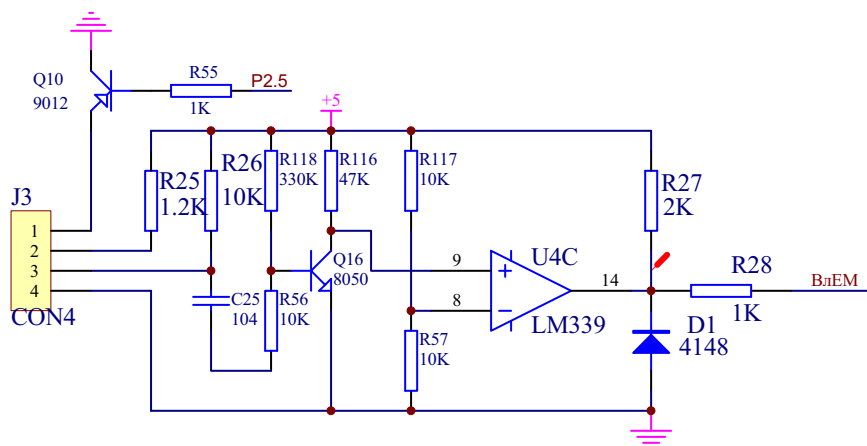

Fig.19 The circuit diagram of width sensor
(2) PRO85UM, PRO85UM/S (Fig.19)